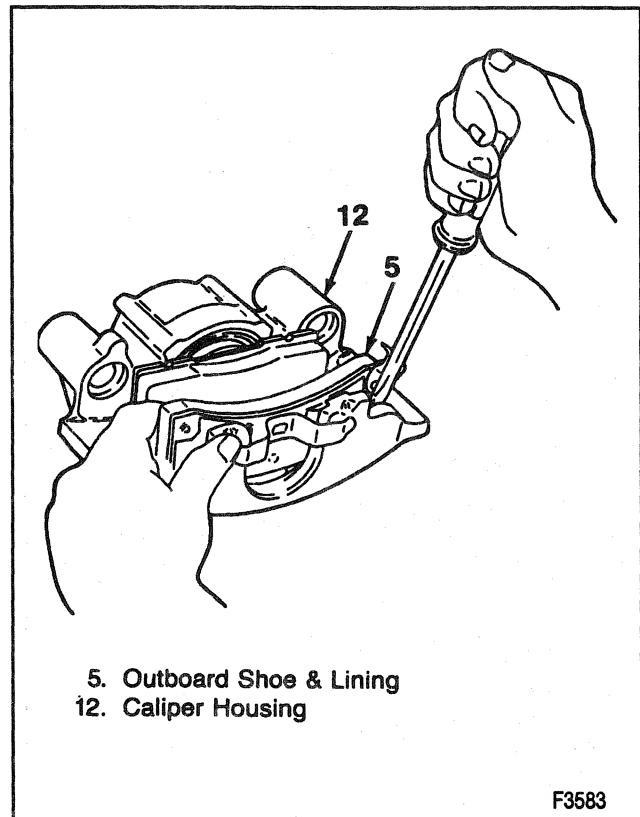

Figure 9—Removing the Outboard Shoe and Lining
2. Outboard shoe and lining (5) (Figure 9).
3. Inboard shoe and lining (7).
4. Bolt boots (1).
5. Mounting bolt seals (4).
6. Bushings (3).